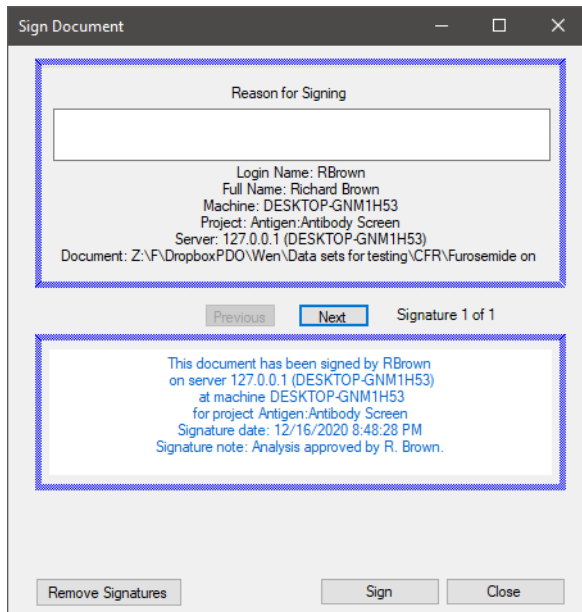

Figure 12-17: Sign Document Dialog After First Signature
3. Enter your password and click **OK**. The Sign Document dialog box now shows Signature 1 of 1 (Figure 12-17).